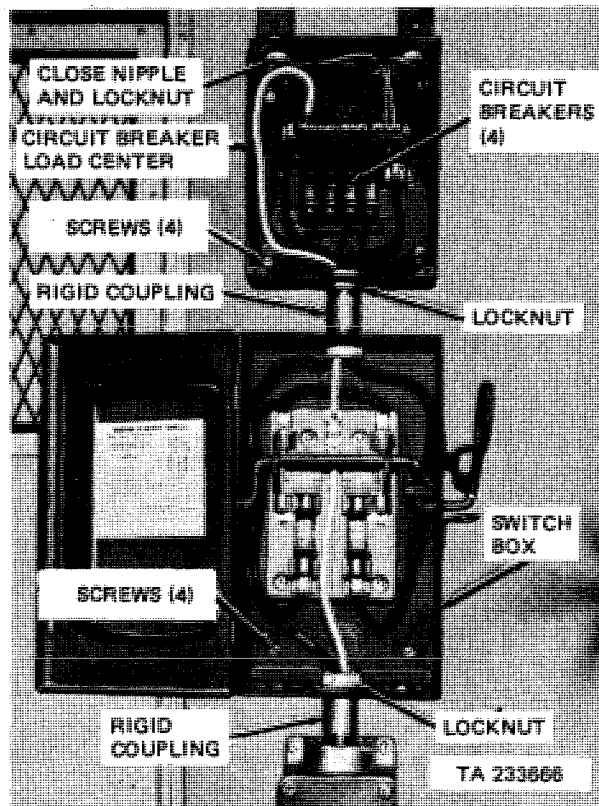

Figure 5-9. 110-volt switch box and circuit breaker load center, M129 Series - internal view
- (1) 110-volt switch box and circuit breaker load center (M129 Series, fig. 5-9). Replace any defective circuit breakers. To replace a circuit breaker, pull circuit breaker out and snap a new one into place. If knife switch in switch box makes loose contact, press contacts closer together. If either circuit breaker load center or switch box are damaged beyond serviceability, remove and replace as follows: